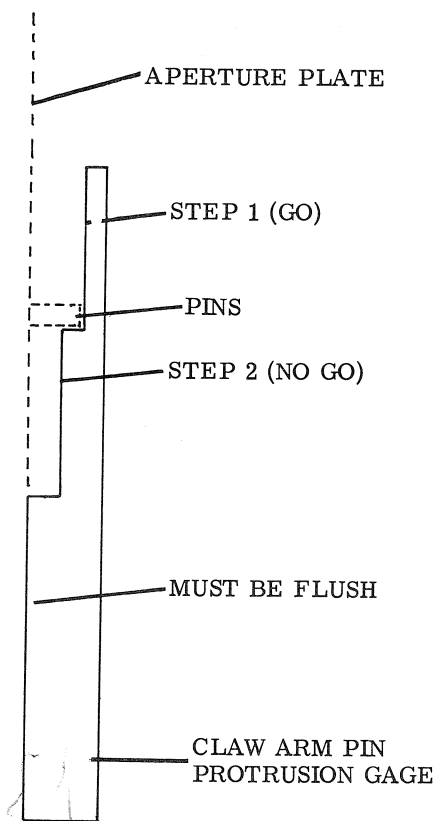
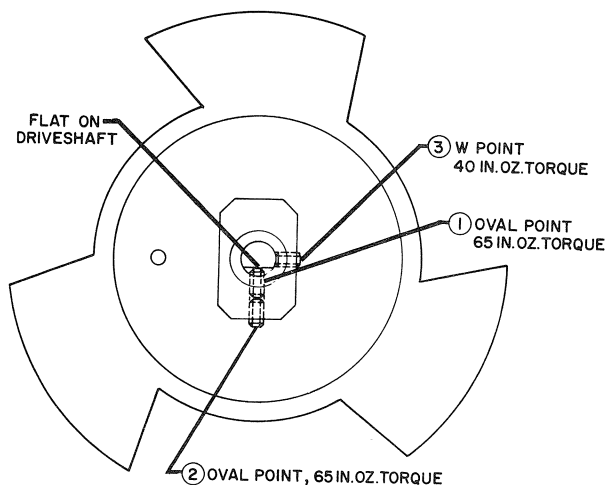

Figure 3-41A. PIN PROTRUSION
Figure 3-41B. SECURING SHUTTER AND CAM ASSEMBLY
13. Claw Arm (Figures 3-41A, B, C and 42)
a. Pin Protrusion - Pin protrusion should be set at 0.040", using Claw Arm Pin Protrusion Gage G14-38000 (Figure 3-5). Place gage flush against aperture plate as shown in Figure 3-41A. Pin should just clear the 0.045" step (Step 1) of gage and touch the 0.035" step (Step 2) of gage. To change pin protrusion, remove setscrew (2, Fig. 3-41B). Loosen setscrews (1 & 3) in hub of assembly and move assembly forward or backward on shaft until correct pin protrusion has been reached. Relock hub of assembly on shaft, tightening setscrews (1, 2, 3) in that order. Note orientation of flat on drive shaft. Failure to adjust screws to torques specified in Figure 3-41B may cause a bind in the automatic shutter operation. If required pin protrusion cannot be obtained, replace entire claw arm assembly. DO NOT BEND CLAW ARM.